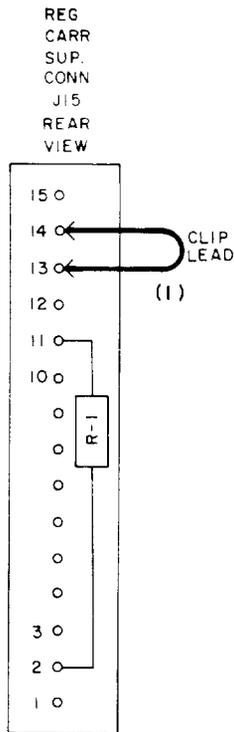

Fig. 21—Connections—Loss-of-Sync-Signal Test—Unprotected Carrier Supply
- 1 At the rear of the shelf for the unprotected **regular** carrier supply under test, connect pin 13 to pin 14 of jack J15 for the carrier supply under test [connection (1), Fig. 21].